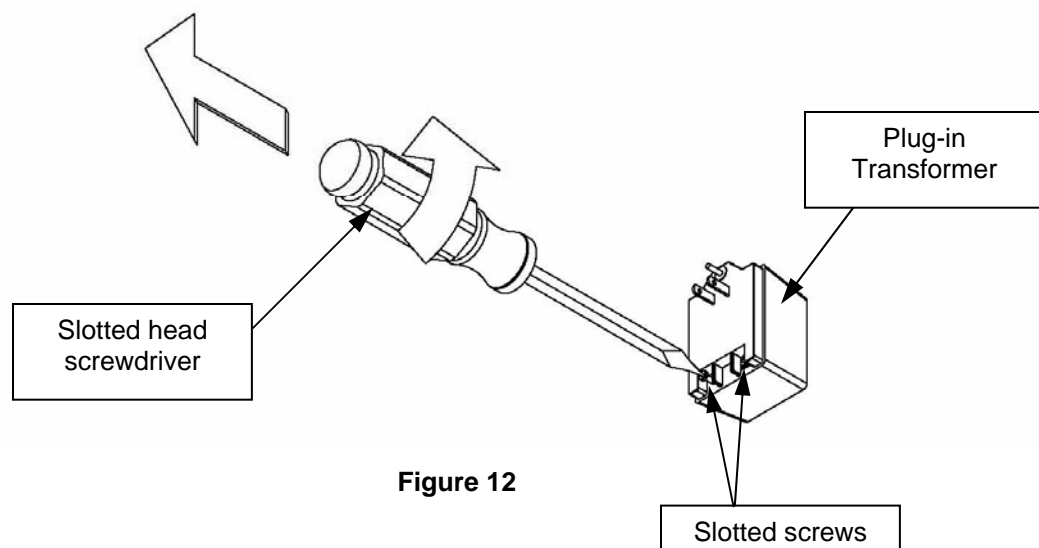

Figure 12
Step 12: Loosen the (2) slotted screws on the transformer. These screws are permanently retained and cannot be completely removed. This is shown in Figure 12.